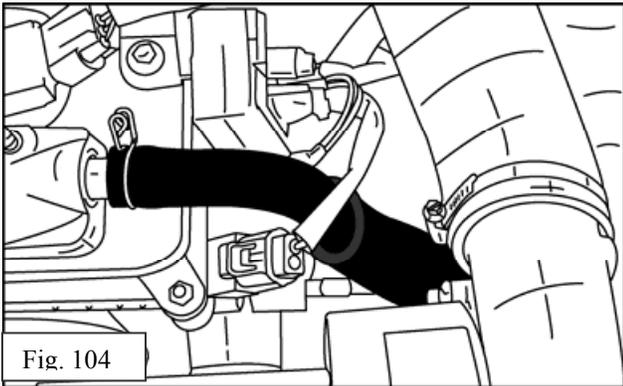

Fig. 104
- (p) Install valve cover breather hose onto valve cover. Fig. 104.